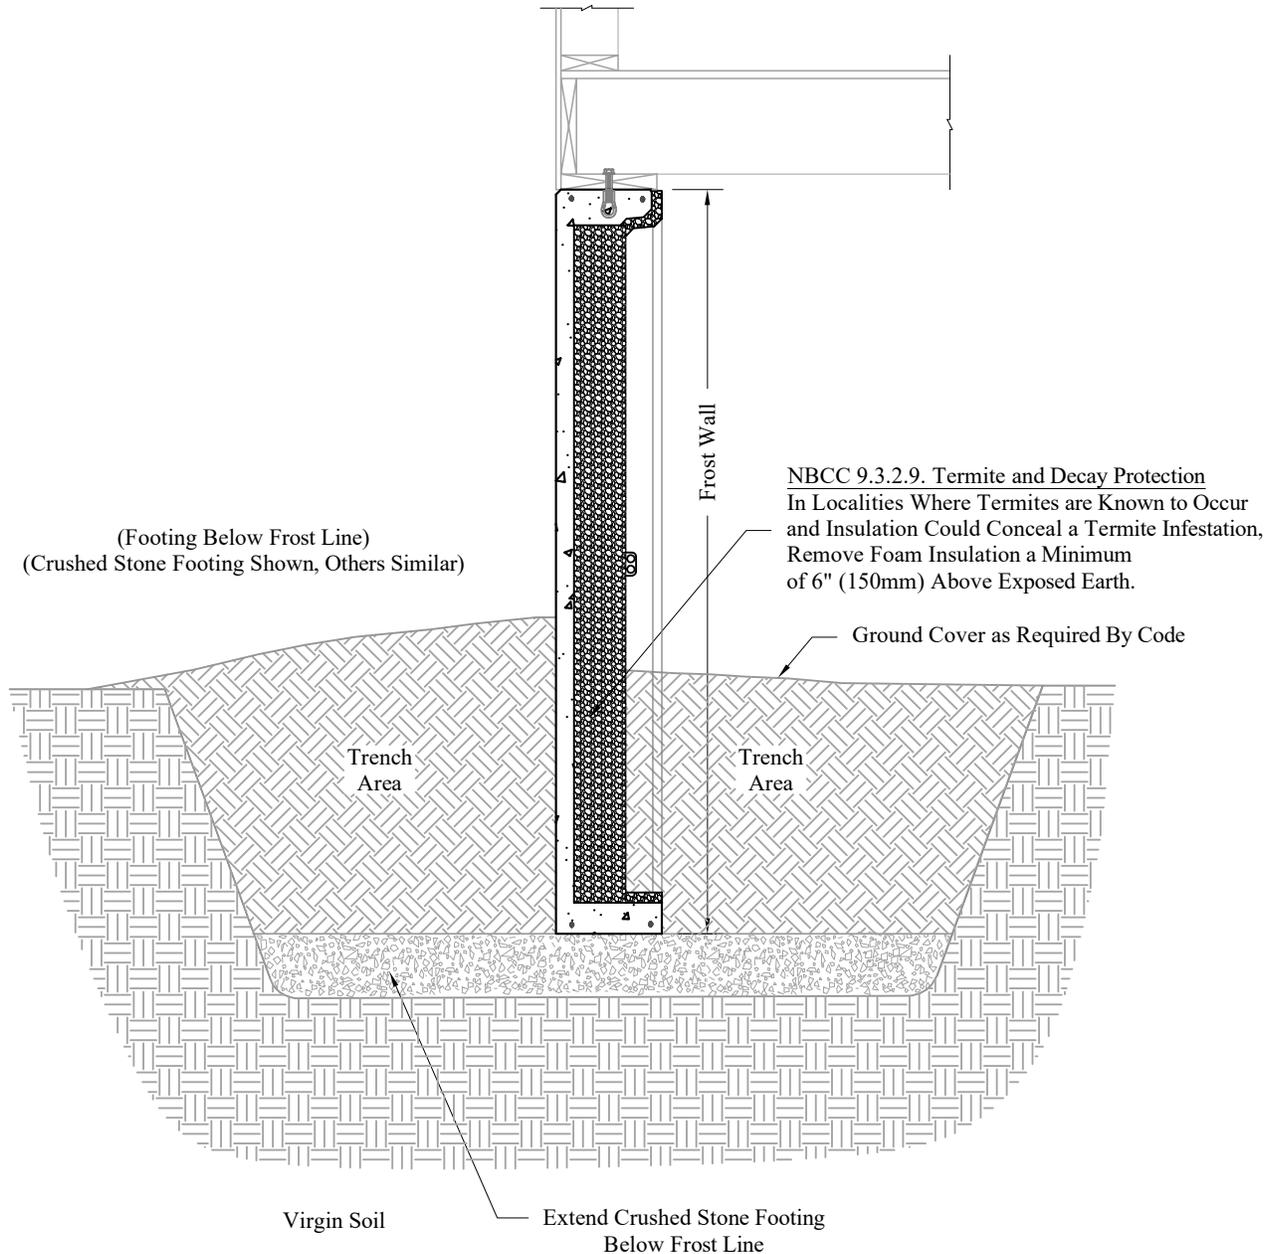

Figure 9
- Walls placed in trenches, as illustrated in Figure 9, do not require a perforated drain pipe to be installed.